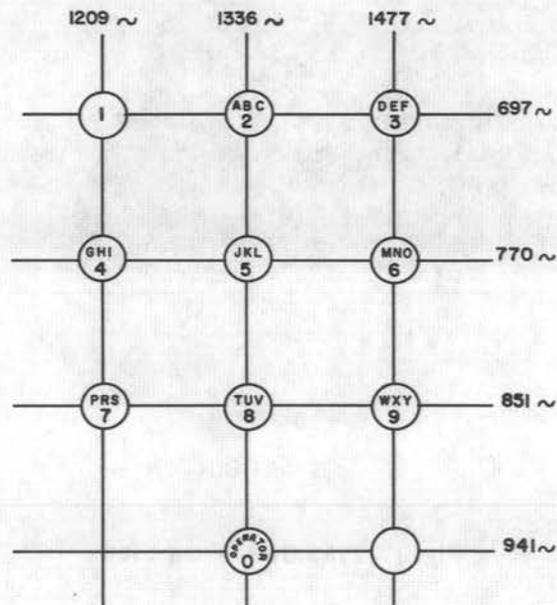

Fig. 4 - Dial Frequencies
3.03 Two frequencies are generated simultaneously when a pushbutton is depressed. Fig. 4 shows the relationship of pushbuttons to selected frequencies.